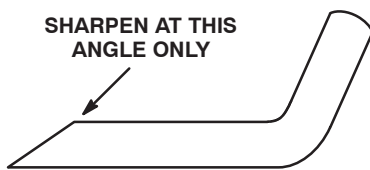

Figure 66
3. Examine cutting edges of all blades. Sharpen cutting edges that are dull or nicked. To assure sharpness, sharpen only the top side of the cutting edge while maintaining the original cutting angle (Fig. 66). If the same amount of metal is removed from both cutting edges, the blade will remain balanced.